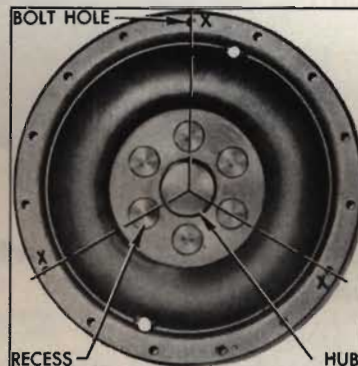

Fig. 20. Location of driving bolt holes
18. Refer to Fig. 20. Looking at the front face of the converter pump cover, select three bolt holes (X) that are aligned with the center of the hub and one of the counter-bored recesses adjacent to the hub. Put a mark at each hole for later installation of the flywheel to the converter pump driving bolts.